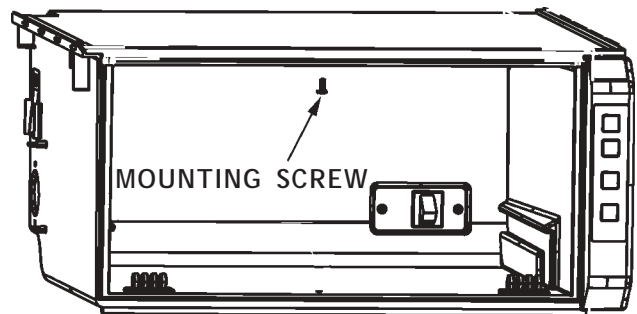

Figure 2-5
- Remove the control housing cover. Then remove the top cover mounting screw. (See Figure 2-5)